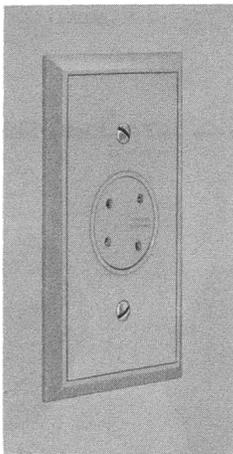

Fig. 19 — 550A Jack, Mounted
**2.19** The 550A jack (Fig. 19) consists of a 548A jack, 43A bracket and faceplate. Mounting hardware is furnished and additional faceplates may be ordered (Table B). Latest production 550A jacks are furnished with 43B brackets instead of the 43A.